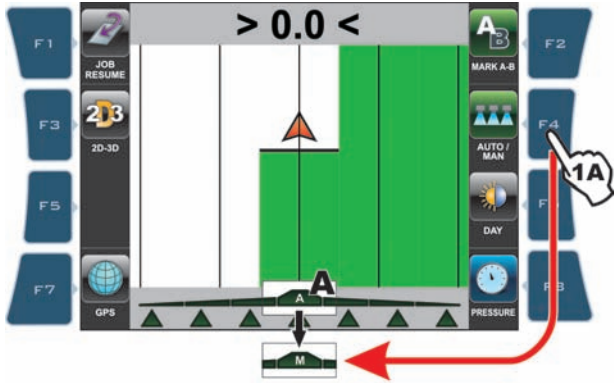

Fig. 266
13.2.4 Activate/deactivate automatic control of section valves (figures 266 - 267)
1A Automatic control is active (A in Fig. 266). Press F4 to shift to manual control.